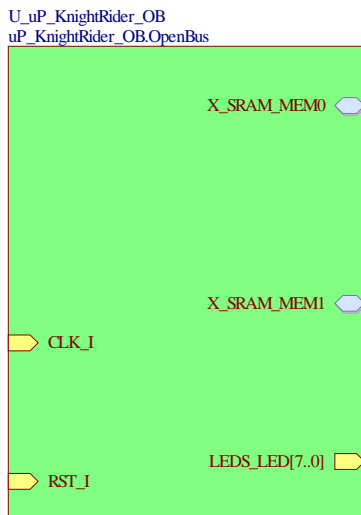

Figure 6. Resize the Sheet Symbol, and position the Sheet Entries.
21. Click once on the green Sheet Symbol to select it, then click and drag on the lower middle handle to resize it, as shown in Figure 6.
22. Click and drag on each Sheet Entry to reposition it, as shown in Figure 6. The exact location is not critical.